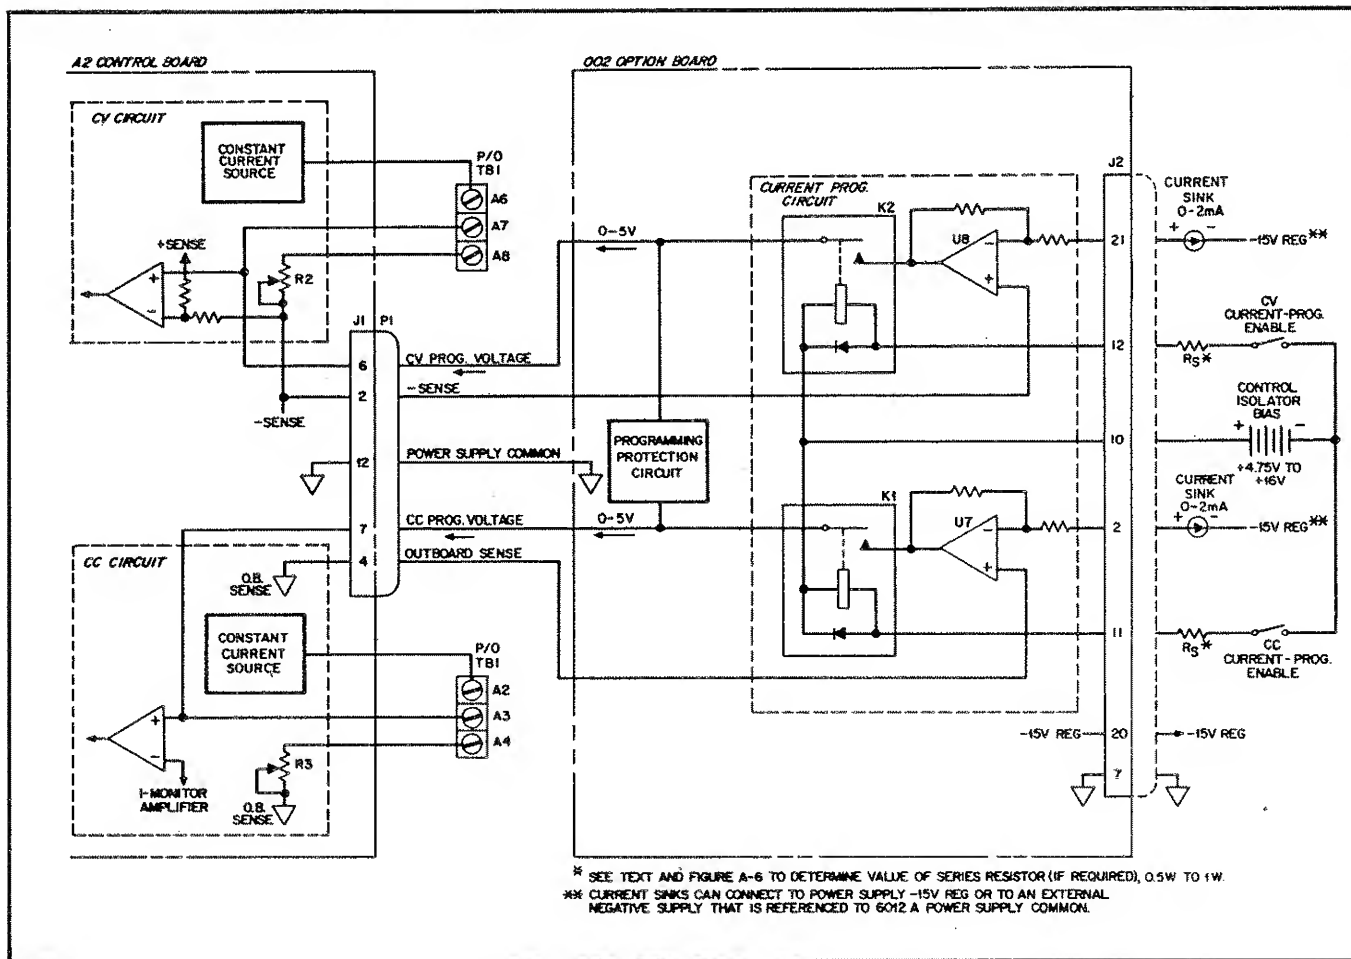

Figure A-5. Current Programming Output Voltage And/Or Current
**A-26 Current Control (Figure A-5).** A current sink, variable from 0 to 2 mA, can be used to program the output voltage or current from 0 to full scale. The following paragraphs provide the necessary instructions for programming with a current sink.
**A-28** Current programming is enabled by relays K2 (for CV) and/or K1 (for CC), which are powered from the CONTROL ISOLATOR BIAS connected to J2-10. Maintaining a low logic level (CONTROL ISOLATOR BIAS supply common) at one or both of the CURRENT PROG. ENABLE inputs, J2-12 (CV) and J2-11 (CC), closes the appropriate relay.